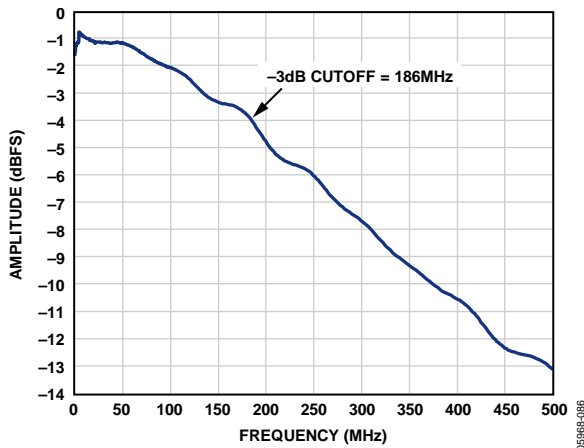

Figure 71. Evaluation Board Full-Power Bandwidth
- **AIN:** The evaluation board is set up for a transformer-coupled analog input with an optimum 50  $\Omega$  impedance match of 150 MHz of bandwidth (see Figure 71). For more bandwidth response, the differential capacitor across the analog inputs can be changed or removed. The common mode of the analog inputs is developed from the center tap of the transformer or AVDD\_DUT/2.